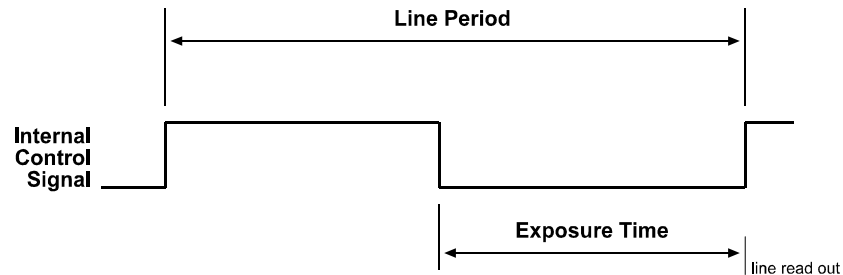

Figure 3-6: Free-run, Programmable Mode
- In **free-run, programmable mode**, the pixels are exposed and charge is accumulated when the internal control signal is low. The line is read out and transferred on the rising edge of the internal control signal (see Figure 3-6).